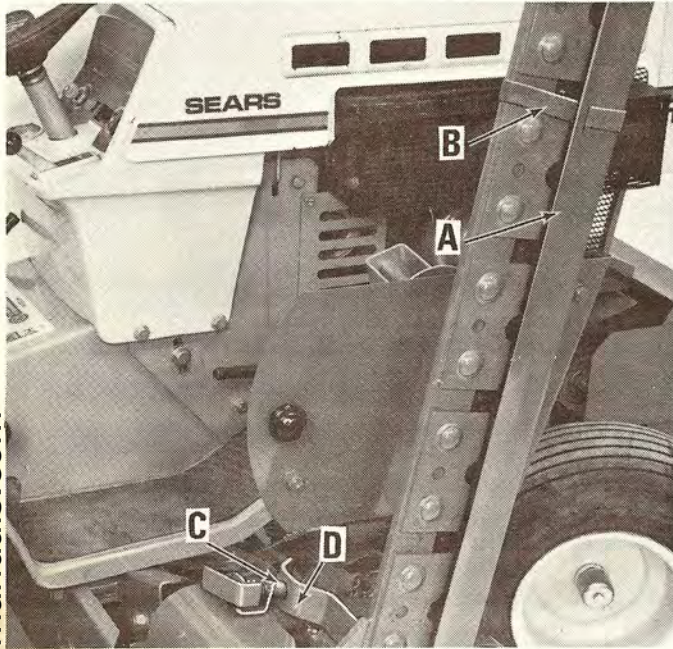

Fig. 16
## LOWERING SICKLE BAR MOWER FROM TRANSPORT POSITION TO MOWING POSITION FIG. 16
Stop tractor engine. Standing behind mower, push inward slightly on mower bar, slide transport pin (C) FIG. 16 out of strap and lower sickle bar to the ground. Loosen retaining strap (B) FIG. 16 and remove sickle knife cover. Always install sickle knife cover when mower is not in use or when transporting unit.